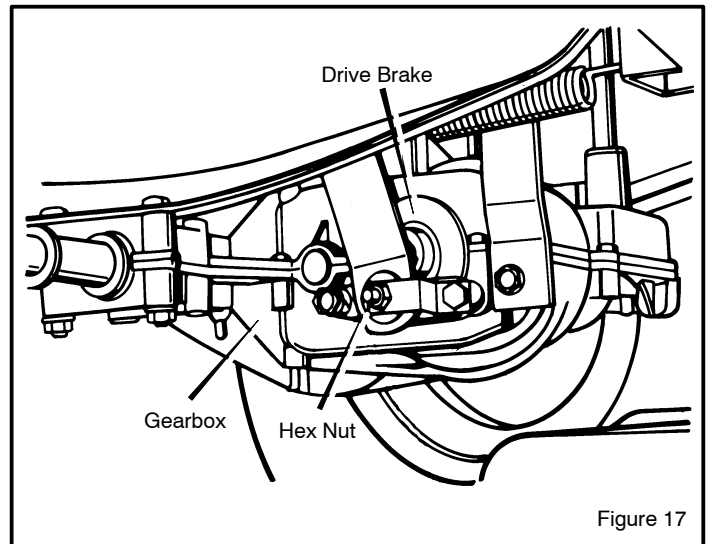

Figure 17
1. The location of the **drive brake** is on the right side of the **gearbox** (Figure 17).
2. Make sure the parking brake is set and the shift lever is in neutral (N). Turn the **hex nut** in a clockwise direction until the rear wheels do not turn when the unit is pushed forward.